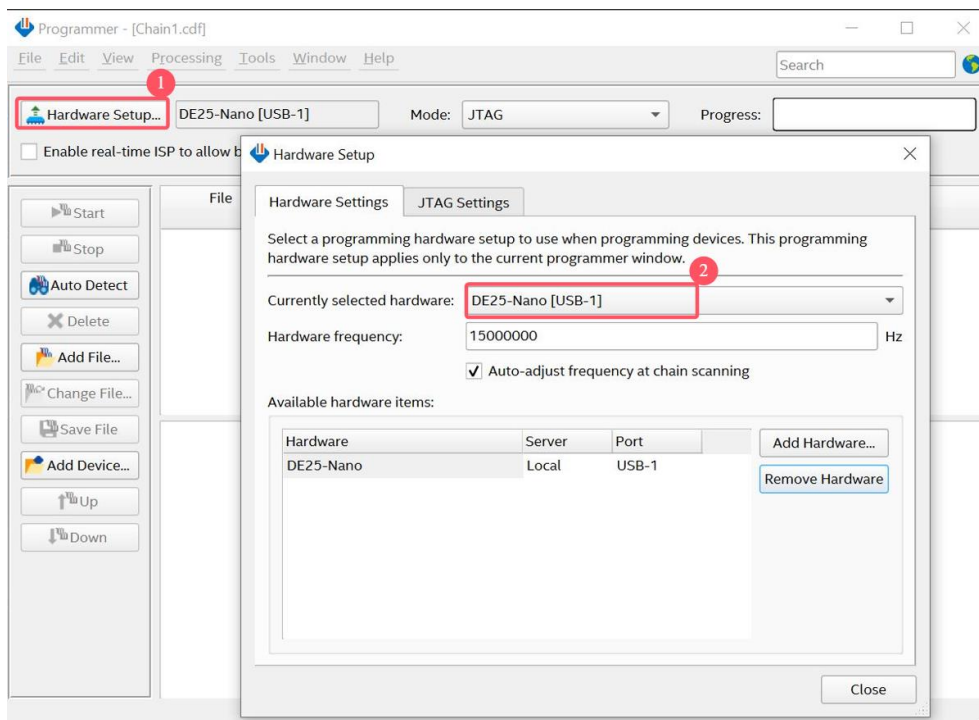

Figure 4-3 Hardware Setup
4. Select **DE25-Nano[USB-1]** under **Currently selected hardware**, and click **Close** as shown in **Figure 4-3**.